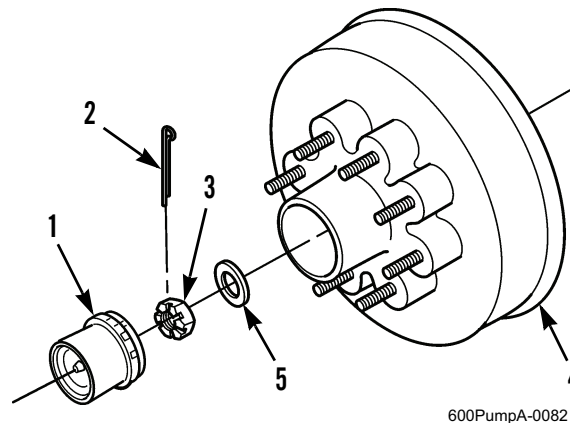

Figure 1. Remove Hub/Drum from Axle Spindle.
1. Use a pipe wrench to remove Bearing Buddy® cap (Figure 1, Item 1) from hub/drum (Figure 1, Item 4).
2. Remove cotter pin (Figure 1, Item 2) from spindle nut (Figure 1, Item 3). Discard cotter pin.
3. Remove spindle nut (Figure 1, Item 3) and washer (Figure 1, Item 5).
4. Remove hub/drum (Figure 1, Item 4), with wheel bearings and seal installed, from axle spindle.